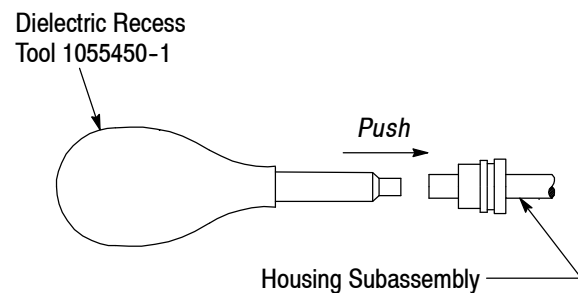

Figure 5
2. Place the dielectric recess tool on the dielectric and push the tool to recess the dielectric within the cable outer conductor. See Figure 5.